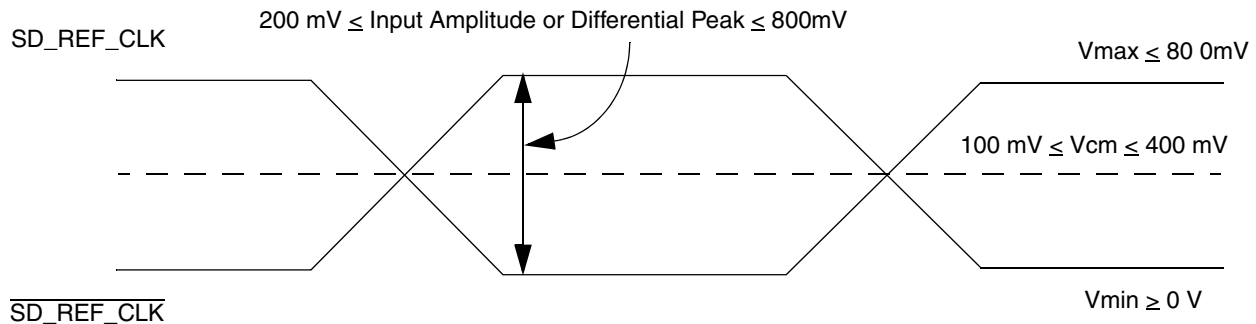

Figure 17. Differential Reference Clock Input DC Requirements (External DC-Coupled)
- For **external DC-coupled** connection, as described in Section 10.2.1, “SerDes reference clock receiver characteristics,” the maximum average current requirements sets the requirement for average voltage (common mode voltage) to be between 100 mV and 400 mV. Figure 17 shows the SerDes reference clock input requirement for DC-coupled connection scheme.